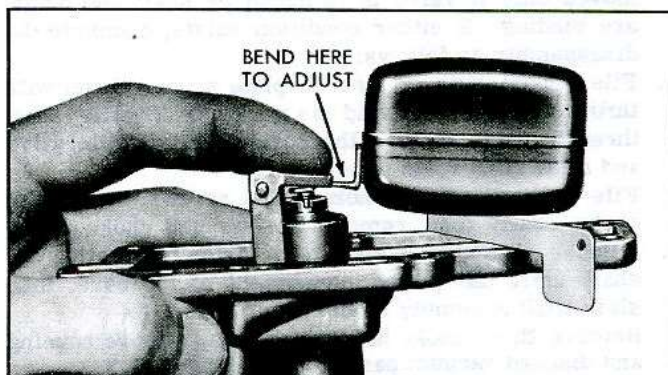

Fig. 31—Adjusting Float Level
- Invert cover and measure the distance between cover gasket surface and float at center of float (fig. 31). This **FLOAT LEVEL** dimension should be  $5/8"$  or use Tool J-21056.